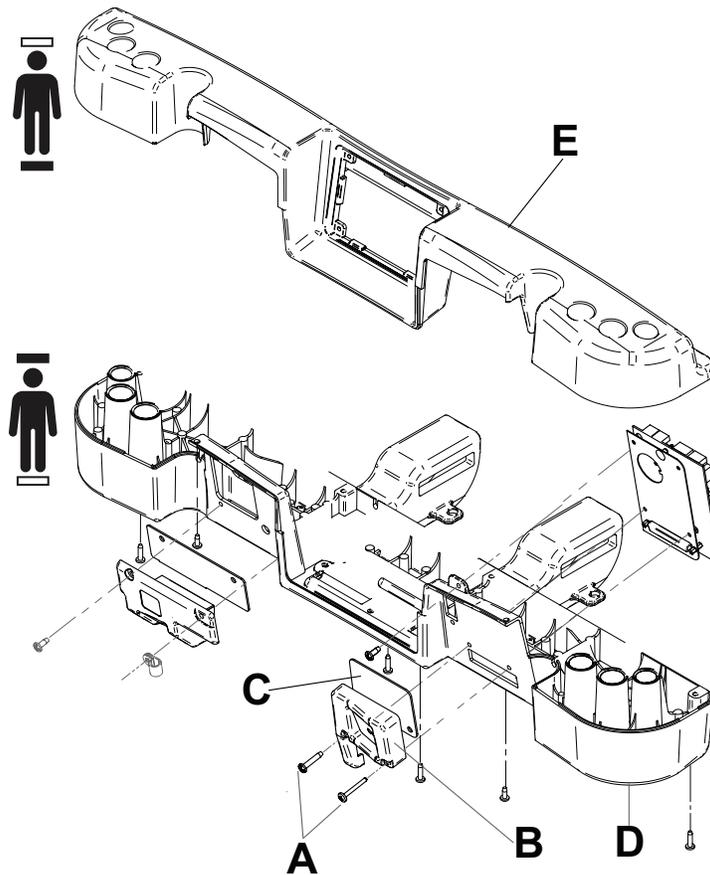

Figure 72 – IR module
11. Using a #2 Phillips screwdriver, remove the two screws (A) that secure the right IR module (B) and gasket (C) to the head end frame (D) (Figure 72). Save the screws.